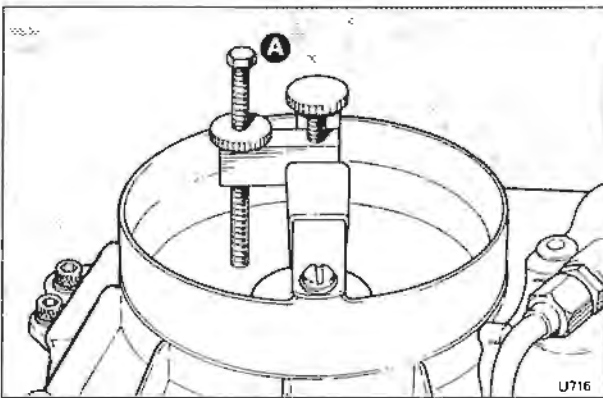

Fig. B2-35 Air flow sensor plate movement adjustment device
6. Press switch number one on the test equipment and move the air flow sensor plate downwards (using the adjusting device shown in figure B2-35) until the reading on the small rotameter indicates a flow of approximately 6,7 ml/min.